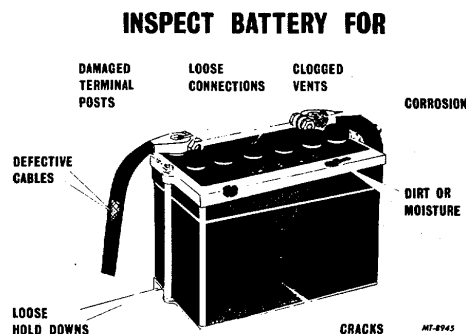

Fig. 8 Battery Maintenance Inspection
1. Inspect battery and mounting for defective cables, loose connections, loose or damaged hold down parts, damaged terminal posts or studs, clogged vents, cracked, or distorted battery case or cover, and accumulations of dirt, moisture and corrosion (Figure 8). Replace any damaged parts.